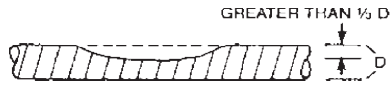

Figure 5.2 Repair Necessary
- The tubing has been significantly crushed or dented (a dent greater than $1/3$ the diameter of the pipe). (Figure 5.2)